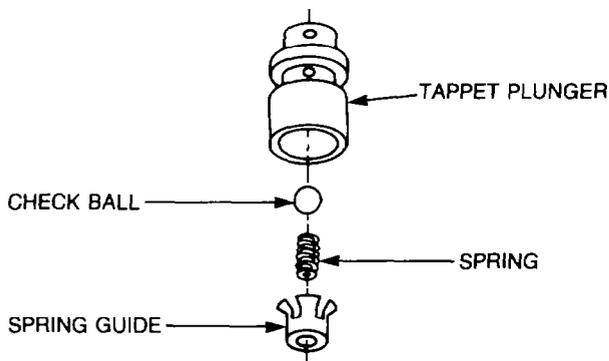

Figure 102 — Tappet Plunger — Assembly
- h. Install the check ball, spring and spring guide into the tappet plunger (see Fig. 102).